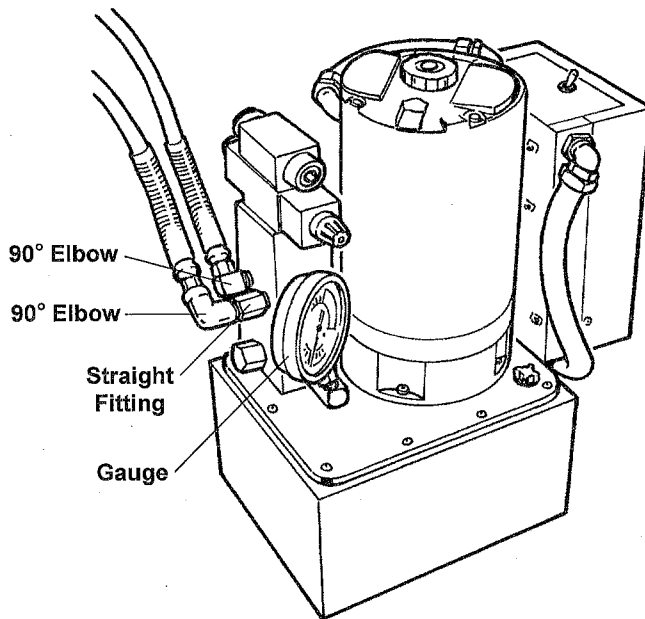
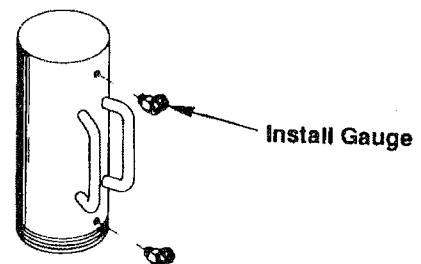

FIGURE 1
FIGURE 2
5. The gauge can be mounted to the pump's gauge port with a 45° elbow as shown in Figure 1. The gauge can also be mounted at the ram by using a tee adapter between the swivel fitting and hose. If you are using a double-acting ram, install the gauge in the top swivel fitting. See Figure 2. In either case, install a pipe plug in the pump's gauge port.